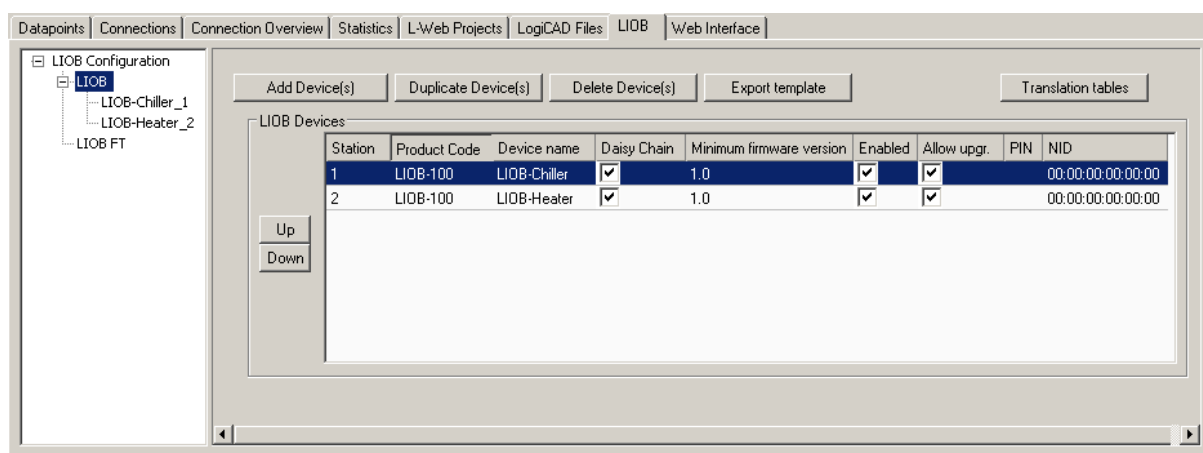

Figure 42: Add L-IOB devices to the LIOB Connect bus.
1. Add L-IOB devices on the **LIOB** tab from the supplied L-IOB templates using the **Add Device(s)** button as shown in Figure 42.